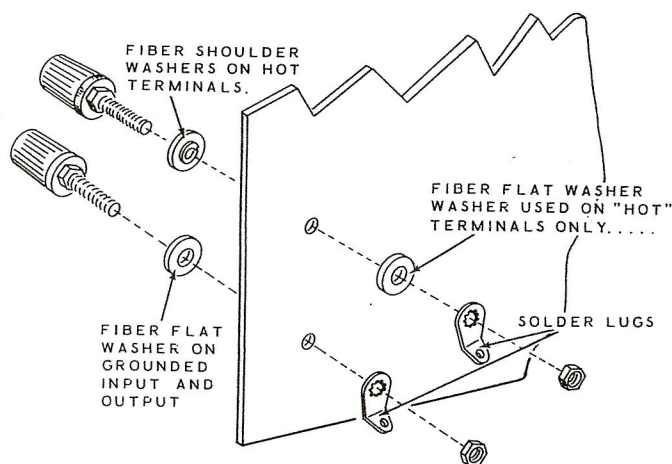

Figure 7
- ( ) On the front panel, mount a binding post base at BA. Place the post through a flat fiber washer, the panel, a solder lug and 6-32 nut. Orient the solder lug as shown in Figure 1. See Figure 7.
- ( ) Mount a binding post base at BH, placing the base through a shoulder fiber washer, the panel, a flat fiber washer, a solder lug and nut as in Figure 7. Make sure the shoulder washer is properly seated before tightening.